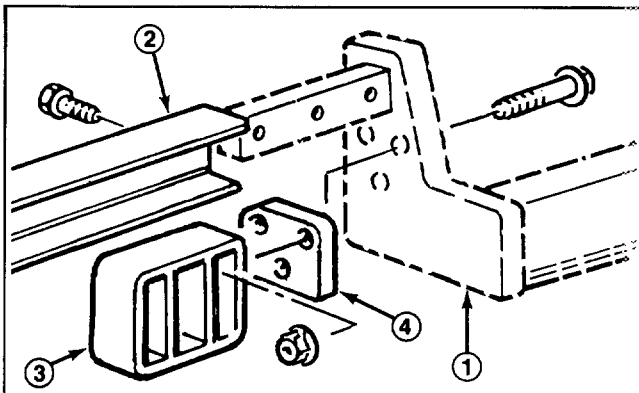

Figure 2
2. Mount a rear cradle to each lift arm with (3) 3/8 - 16 x 1-3/4" capscrews 3/8 - 16, spacer and flange nuts as shown in Figure 2. Torque fasteners to 20-25 ft-lb.
3. Slide carrier frame onto lift arms aligning mounting holes. Secure each side of carrier frame to lift arms with (3) 1/2 - 13 x 1-1/2" lg. capscrews. Torque capscrews to 70-80 ft-lb. (Fig. 2).